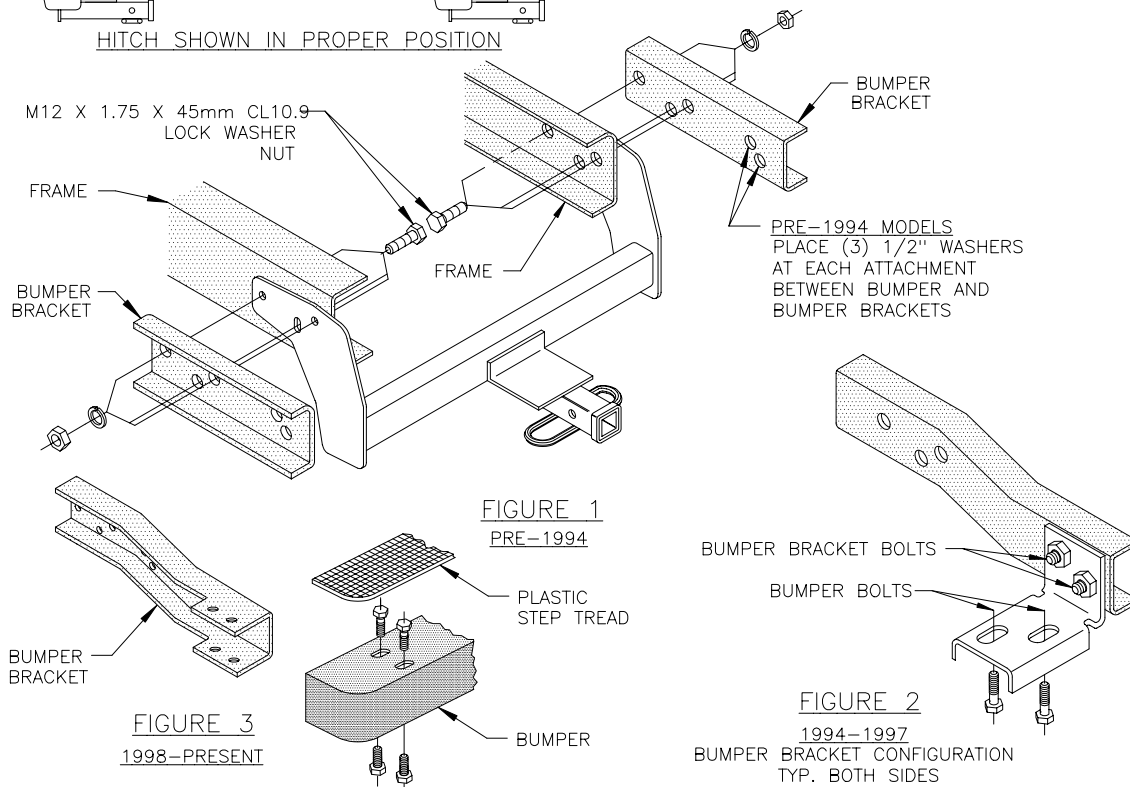

FIGURE 1
5. POSITION RECEIVER ON FRAME AND LOOSELY REINSTALL BUMPER BRACKETS USING (3) M12 BOLTS AND FASTENERS PER SIDE. RECEIVER BRACKETS ARE SANDWICHED BETWEEN BUMPER BRACKETS AND FRAME.
6. **PRE-1994 MODELS:** REINSTALL BUMPER ON BUMPER BRACKETS WITH ORIGINAL BOLTS, USING THREE (3) 1/2" WASHERS AT EACH BOLT LOCATION AS SPACERS BETWEEN BRACKETS AND BUMPER. SEE FIG. 1.